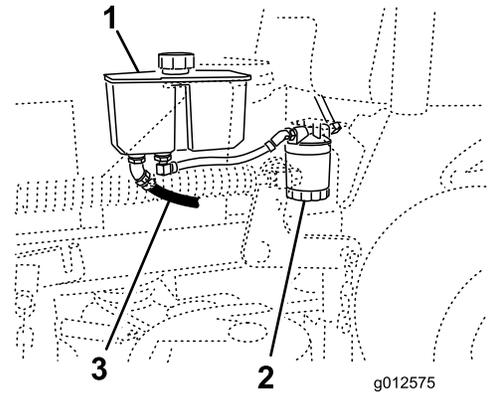

Figure 72
- Locate the front hydraulic hose under the hydraulic tank and place drain pan under the tank (Figure 72).